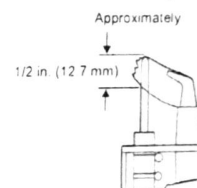

Figure 3: Flame Position
- A flame approximately 1/2 in. (12.7 mm) high must surround the thermocouple tip (see Figure 3)